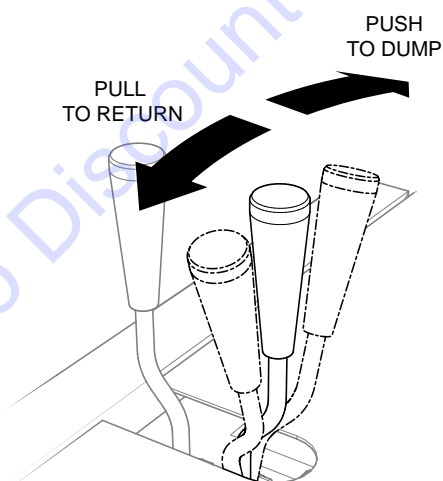

Figure 27. Hydraulic Dump Lever
1. Push hydraulic dump lever (Figure 27) outward to place drum in dump position (Figure 28).